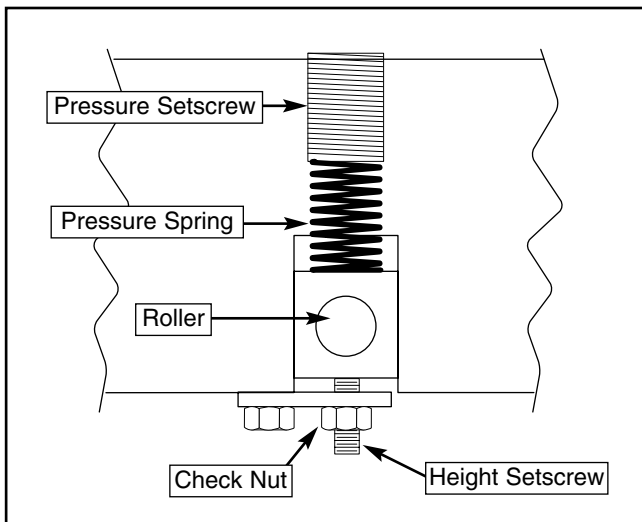

Figure 22. Roller pressure assembly.
4. Remove the springs that are in the holes left by the setscrews. See **Figure 22**.